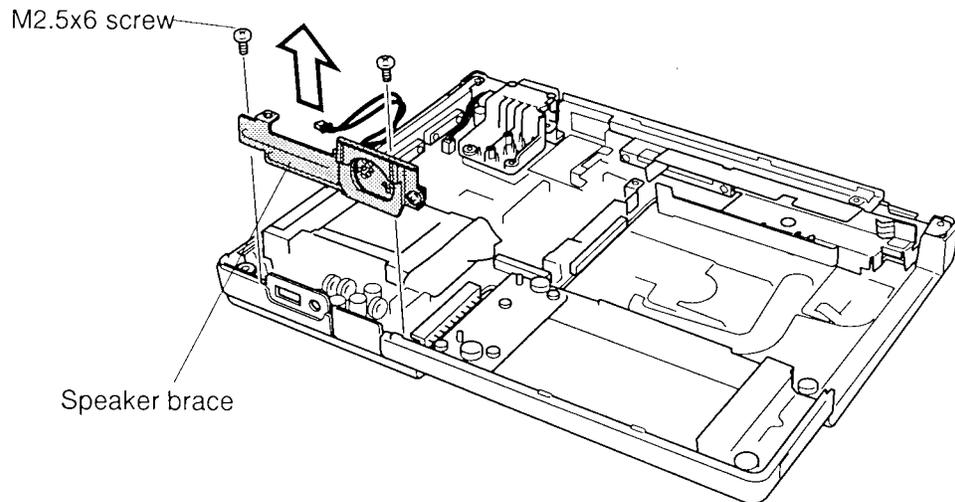

Figure 4-33 Removing the speaker brace
To remove the speaker, follow the steps below and refer to figures 4-33 to 4-34.
To install the speaker, follow the steps below and refer to figures 4-33 to 4-34.
2. Secure the **speaker** and **speaker brace** to the computer with **one M2.5x6 screw** (figure 4-33).